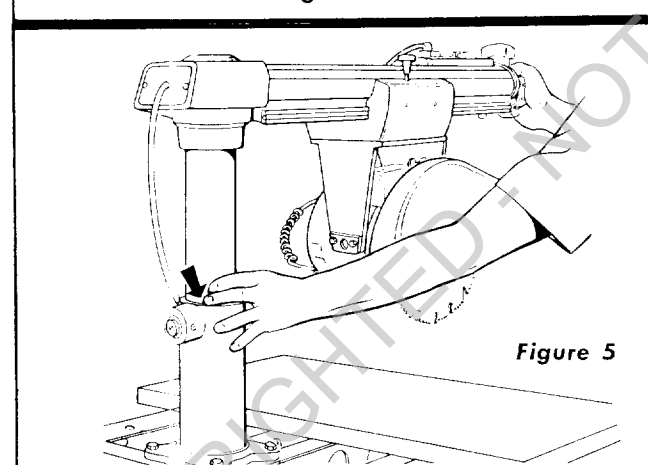

Figure 5
2. Grasp arm latch knob (20, figure 24) with one hand and hold fingers of other hand at parting line between column tube and column support. (See figure 5.) Apply gentle side force to the radial arm in opposing directions. Any looseness between column and column support, (indicated by arrow in figure 5) can be felt with fingers.
3. If looseness can be felt, at point indicated by the arrow in figure 5, perform operations outlined in instructions that follow: